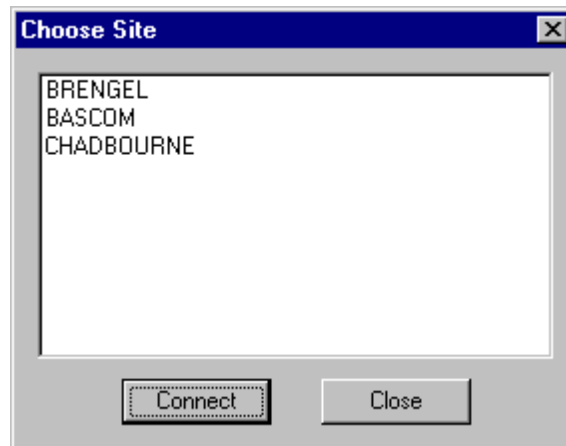

Figure 17-2: Choose Site Dialog Box
2. Select the site from the list provided in the Choose Site dialog box (Figure 17-2) and click Connect.